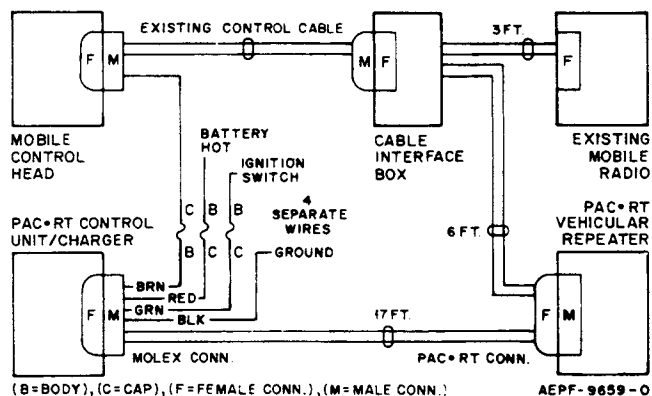
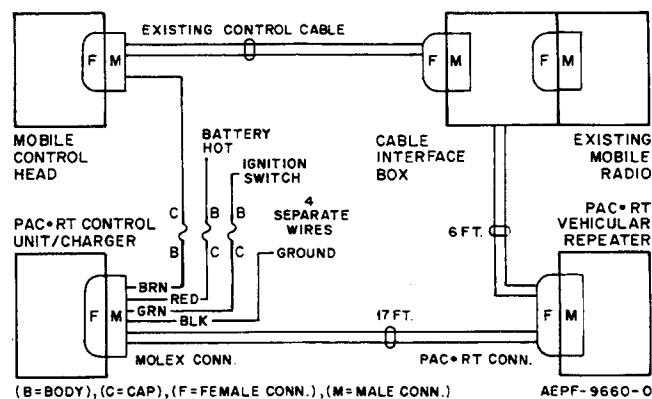

Figure 1. Aerotron Cable Assembly Detail
Figure 2. RCA Cable Assembly Detail
Installation of the PAC•RT repeater system is covered in service supplement 68P81010C09. The Aerotron and RCA cable assembly details are shown in Figures 1 and 2, respectively.
(2) Install the Aerotron mobile radio, control head, and high-band antenna per manufacturer's instructions.
(3) Inside the Aerotron mobile control head, ascertain that a jumper from pin 5 to pin 4 of the microphone connector has been installed as described in above note.
(4) Remove the ZKN6040A RCA Interface Cable, and replace it with the ZKN6039A Aerotron Interface Cable. Connect the "Molex" connector on the end of the 17-foot cable to the ZLN6353A Control Unit/Rapid Charger. Connect the three fused wires and body ground to their respective locations (see Figure 1).
(5) Remove the vehicular repeater unit from its base; i. e., reverse the procedures given in the "Installation" section (Figure 2) of service supplement 68P81010C09.
(6) Remove the six mounting screws from the NRB6262A Low-Band Mobile Detector Board, and replace it with the NRD6632A High-Band Mobile Detector board.
(7) Refer to Figure 1 for the interfacing of the cable assembly between the existing mobile radio and control head, and the PAC•RT vehicular repeater and control unit. Note the different cable lengths of the cable assembly being added; they will be used as a means of identification. Perform the following procedures:
(a) Disconnect the plug from the existing mobile radio and connect it to the female plug, as shown in Figure 1 for the Aerotron mobile radio. In Figure 1, the plug is mounted on the interface box.
The red, green, and brown wires are fused, and are equipped with a cap and body to hold the fuse. In the event the control unit/rapid charger is removed from the vehicle for servicing, the mobile radio can be returned to service by interconnecting the fuse body on the brown wire to the fuse cap on the green wire; see Figure 1 or 2.